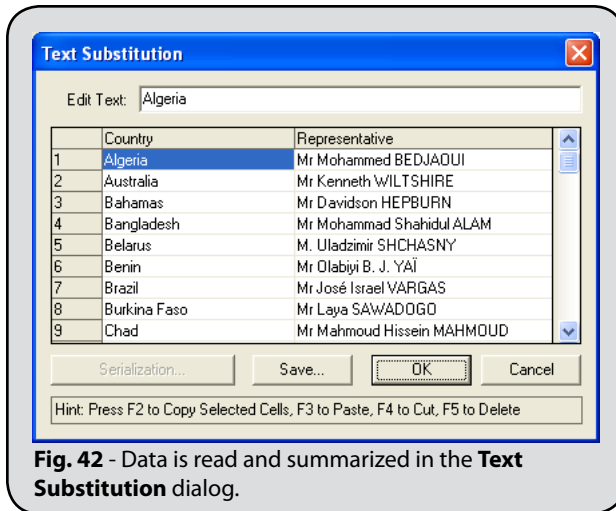

Fig. 42 - Data is read and summarized in the **Text Substitution** dialog.
2. The **Text Substitution** dialog will open (Fig. 42).